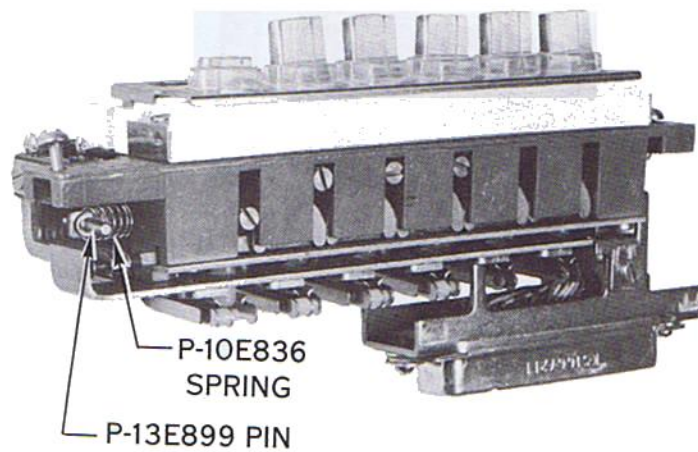

Fig. 18 — Latch Bar Spring and Pin
*When key is ordered separately, remove spring and pin from end of latch bar (Fig. 18) before installing.*
(1) Hold key by both ends of frame.
(2) Lower upper end of key into key well.
(3) Slide key toward rear of well until lower end clears mounting frame and goes into key well.
(4) Engage latch bar, plug, and connector.